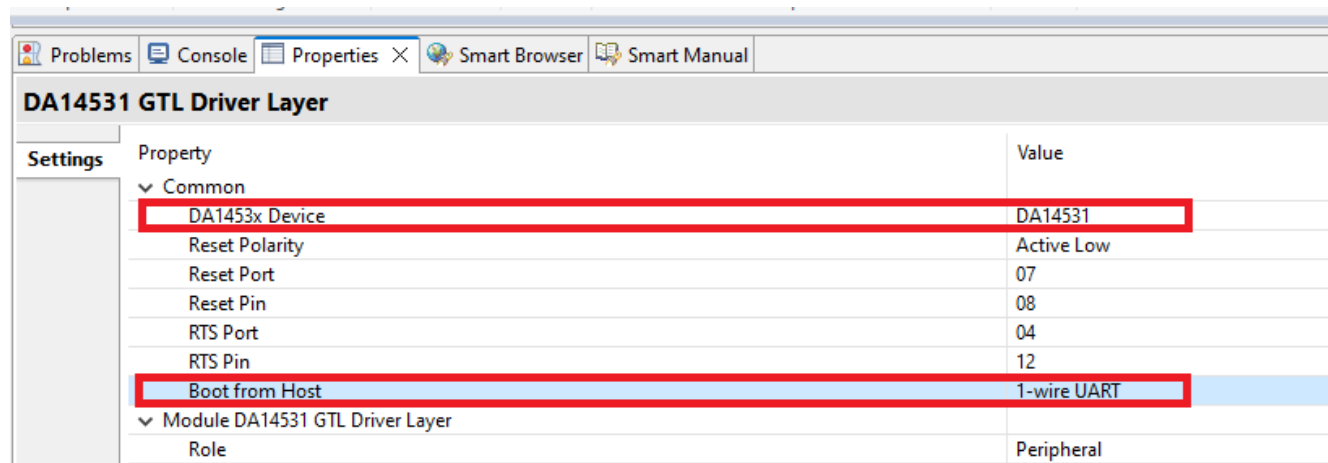

Figure 12. Pmod Pins Configuration for RA6M4-EK
12. Select **DA14531** under **Common > DA1453x Device** as shown in Figure 12.